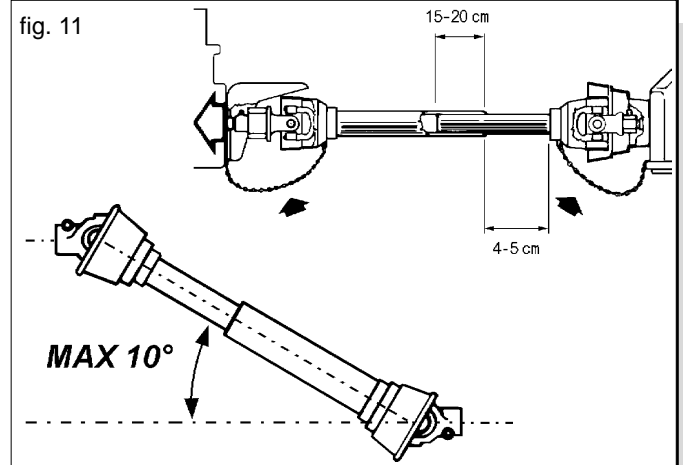

fig. 13
- 7) Connect the hoses of the double-acting hydraulic couplings of the tractor (Fig.13). In this way the shutters can be easily controlled from the driver's seat.